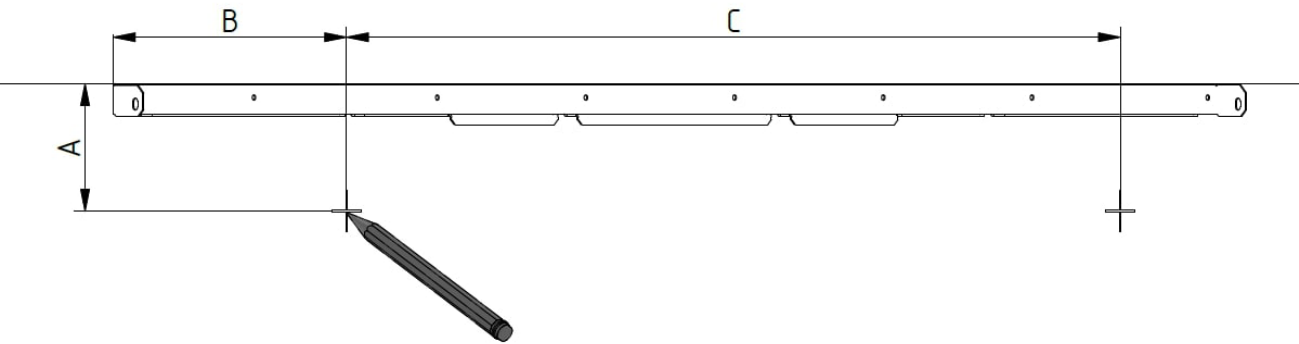

Figure 10: Mark drill holes for the ducts
- 2. Mark the center of the duct holes, see Figure 10 and Table 6.